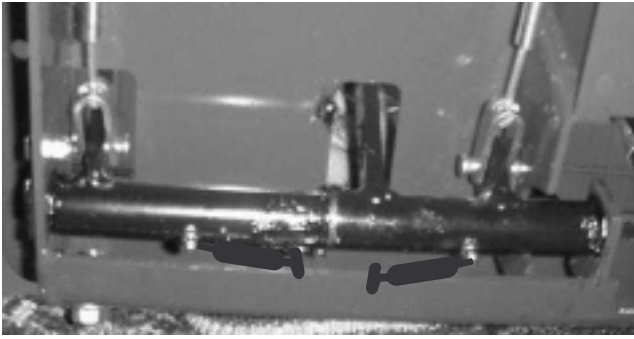

Figure 31
- Brake pivot bushings (Fig. 31)
- Brake cables (drive wheel and brake pedal ends) (Fig. 31).